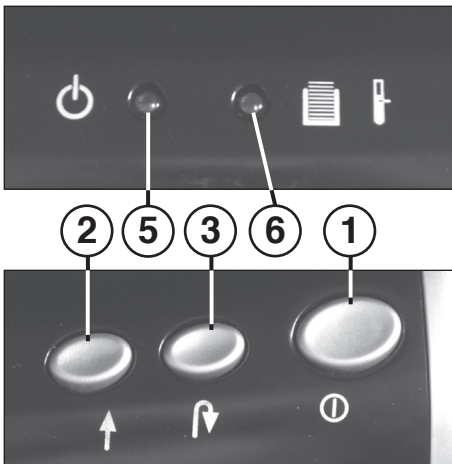

fig. 1
- 1 = Pushbutton switch „ready“ (fig. 1)**
- 2 = Pushbutton „Cutting system forward“ (fig. 1)**
- 3 = Pushbutton „Cutting system reverse“ (fig. 1)**
- 5 = Pilot lamp „ready“ (fig. 1)**
- 6 = Pilot lamp (red / yellow) (fig. 1)**
Turn machine on with pushbutton switch (1) (fig. 1). Pilot lamp lights up (5) (fig. 1).
**The fill level of the collection tray (10) is not displayed by the control display!**
If the receptacle for paper is full, the machine switches off. A horn sounds. The control display (6) (fig. 1) lights up (red).
- Pull the receptacle (9) with the collection tray (10) out of the lower housing.
- The horn stops. The control display (6) (fig. 1) goes out.
Please make sure that the shredder is switched off over night (pushbutton switch (1) (fig. 1)).